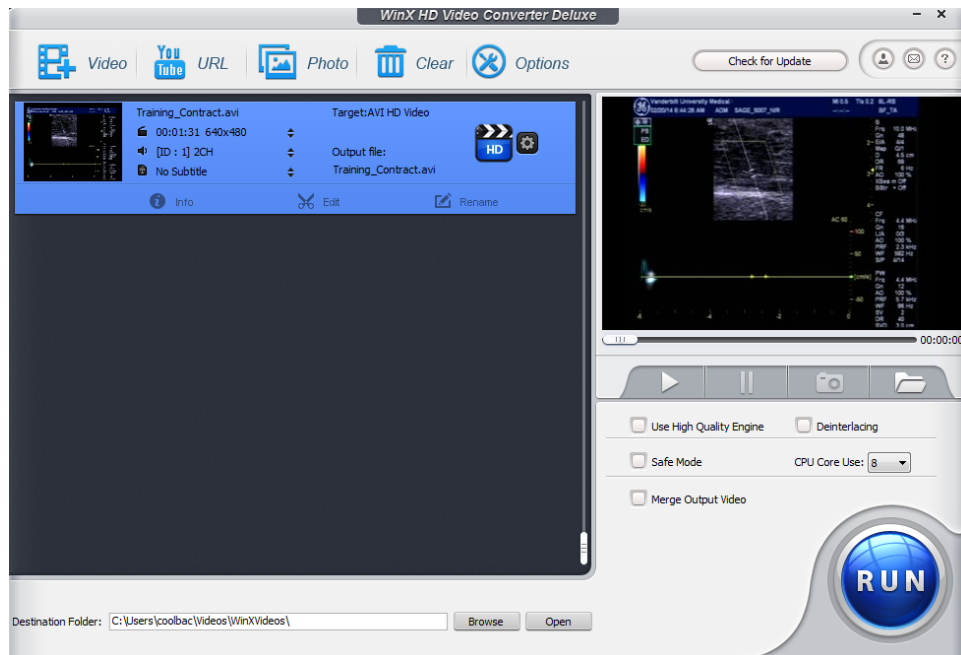

Figure 4.1 WinX HD Video Converter Software. Click on the “Video” icon in the top-left corner to select DVD files for conversion.
1. Open WinX Video Converter Software (Figure 4.1).
5. Edit the video to clip extra frames at the beginning or end of the video using the “scissor” button (Figure 4.1).
6. Select a destination folder for the converted video file (Figure 4.1).